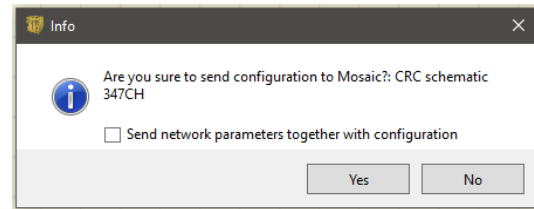

Figure 87 - MOSAIC M1S COM
- ➔ MOSAIC M1S COM only: you can also send the network parameters to Mosaic by selecting the tick in "Figure 87 - MOSAIC M1S COM".